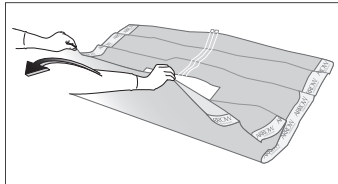

Fig. 11
- Unfold towards hand (refer to Fig. 11).